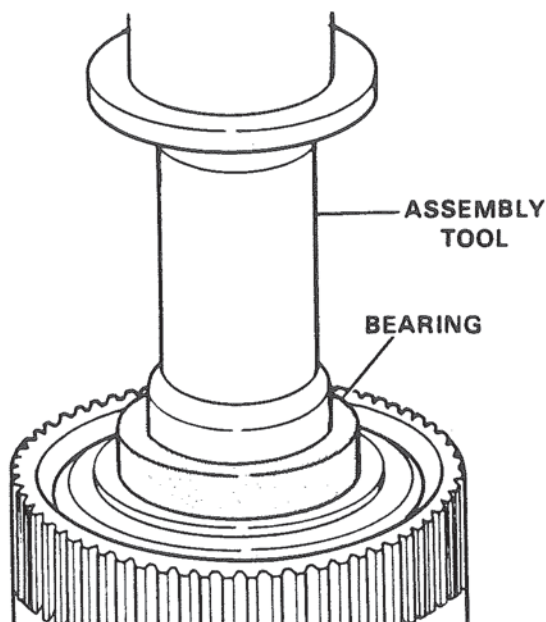

Figure 65. Installing Clutch Bearing.
3. Place aligned parts and assembly tool in place on arbor press. Place bearing over protruding drive gear and squarely into bore at front of forward clutch cylinder; press bearing down with arbor press until bearing is fully seated on shoulder and snap ring grooves in front of bearing are exposed. Figure 65.